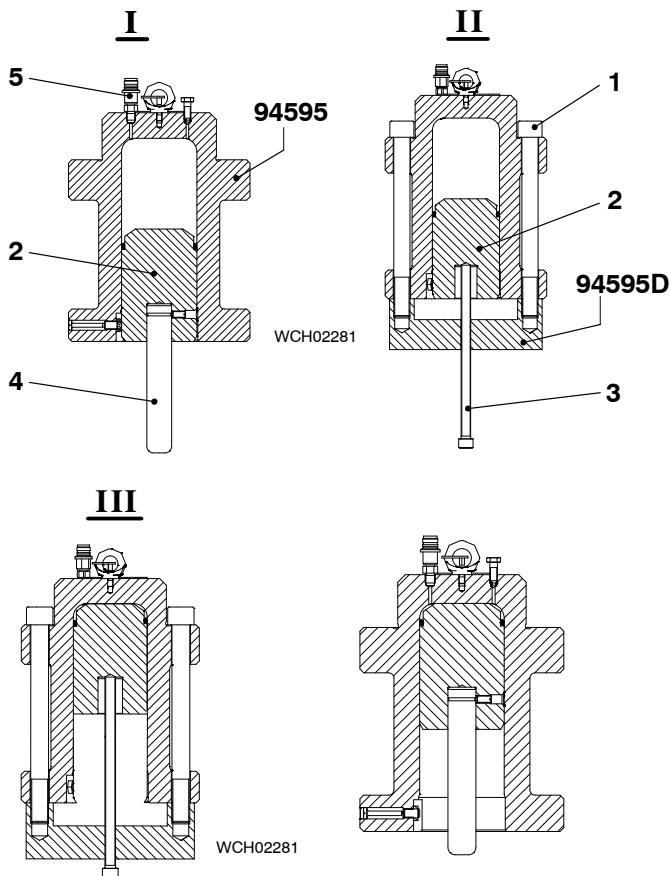

Fig. 2
- 1) Open the vent screw (5, Fig. 2) and push the piston (2) to the top of the cylinder of the hydraulic ram 94595.
- 2) If you cannot move the piston (2) with your hand, do step a) to step c):
- a) Remove the push rod (4) (94595B or 94595C) from the piston (5).
- b) Attach the piston reset tool (94595D) to the hydraulic ram (94595) with two of the screws (1).
- c) Use the spindle (3) to push the piston (2) to the top of the cylinder.
- 4) Put the short push rod (4) (94595B) into the piston (5).